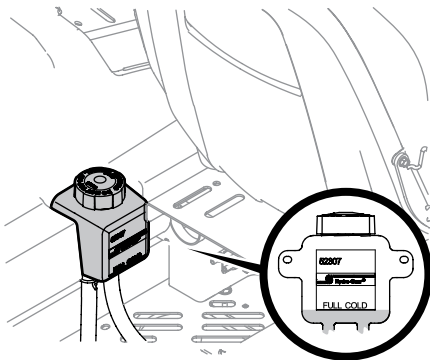

Figure 4-4
1. Pivot the operator's seat forward and clean the reservoir cap and the area around the cap to prevent debris from contaminating the transmission oil. See Figure 4-4.
2. Turn the reservoir cap counterclockwise to remove, then check the oil level in the reservoir. Oil should be visible at the bottom of the cup, but the oil level must NOT be above the "FULL COLD" line. See Figure 4-4. DO NOT FILL THE RESERVOIR.